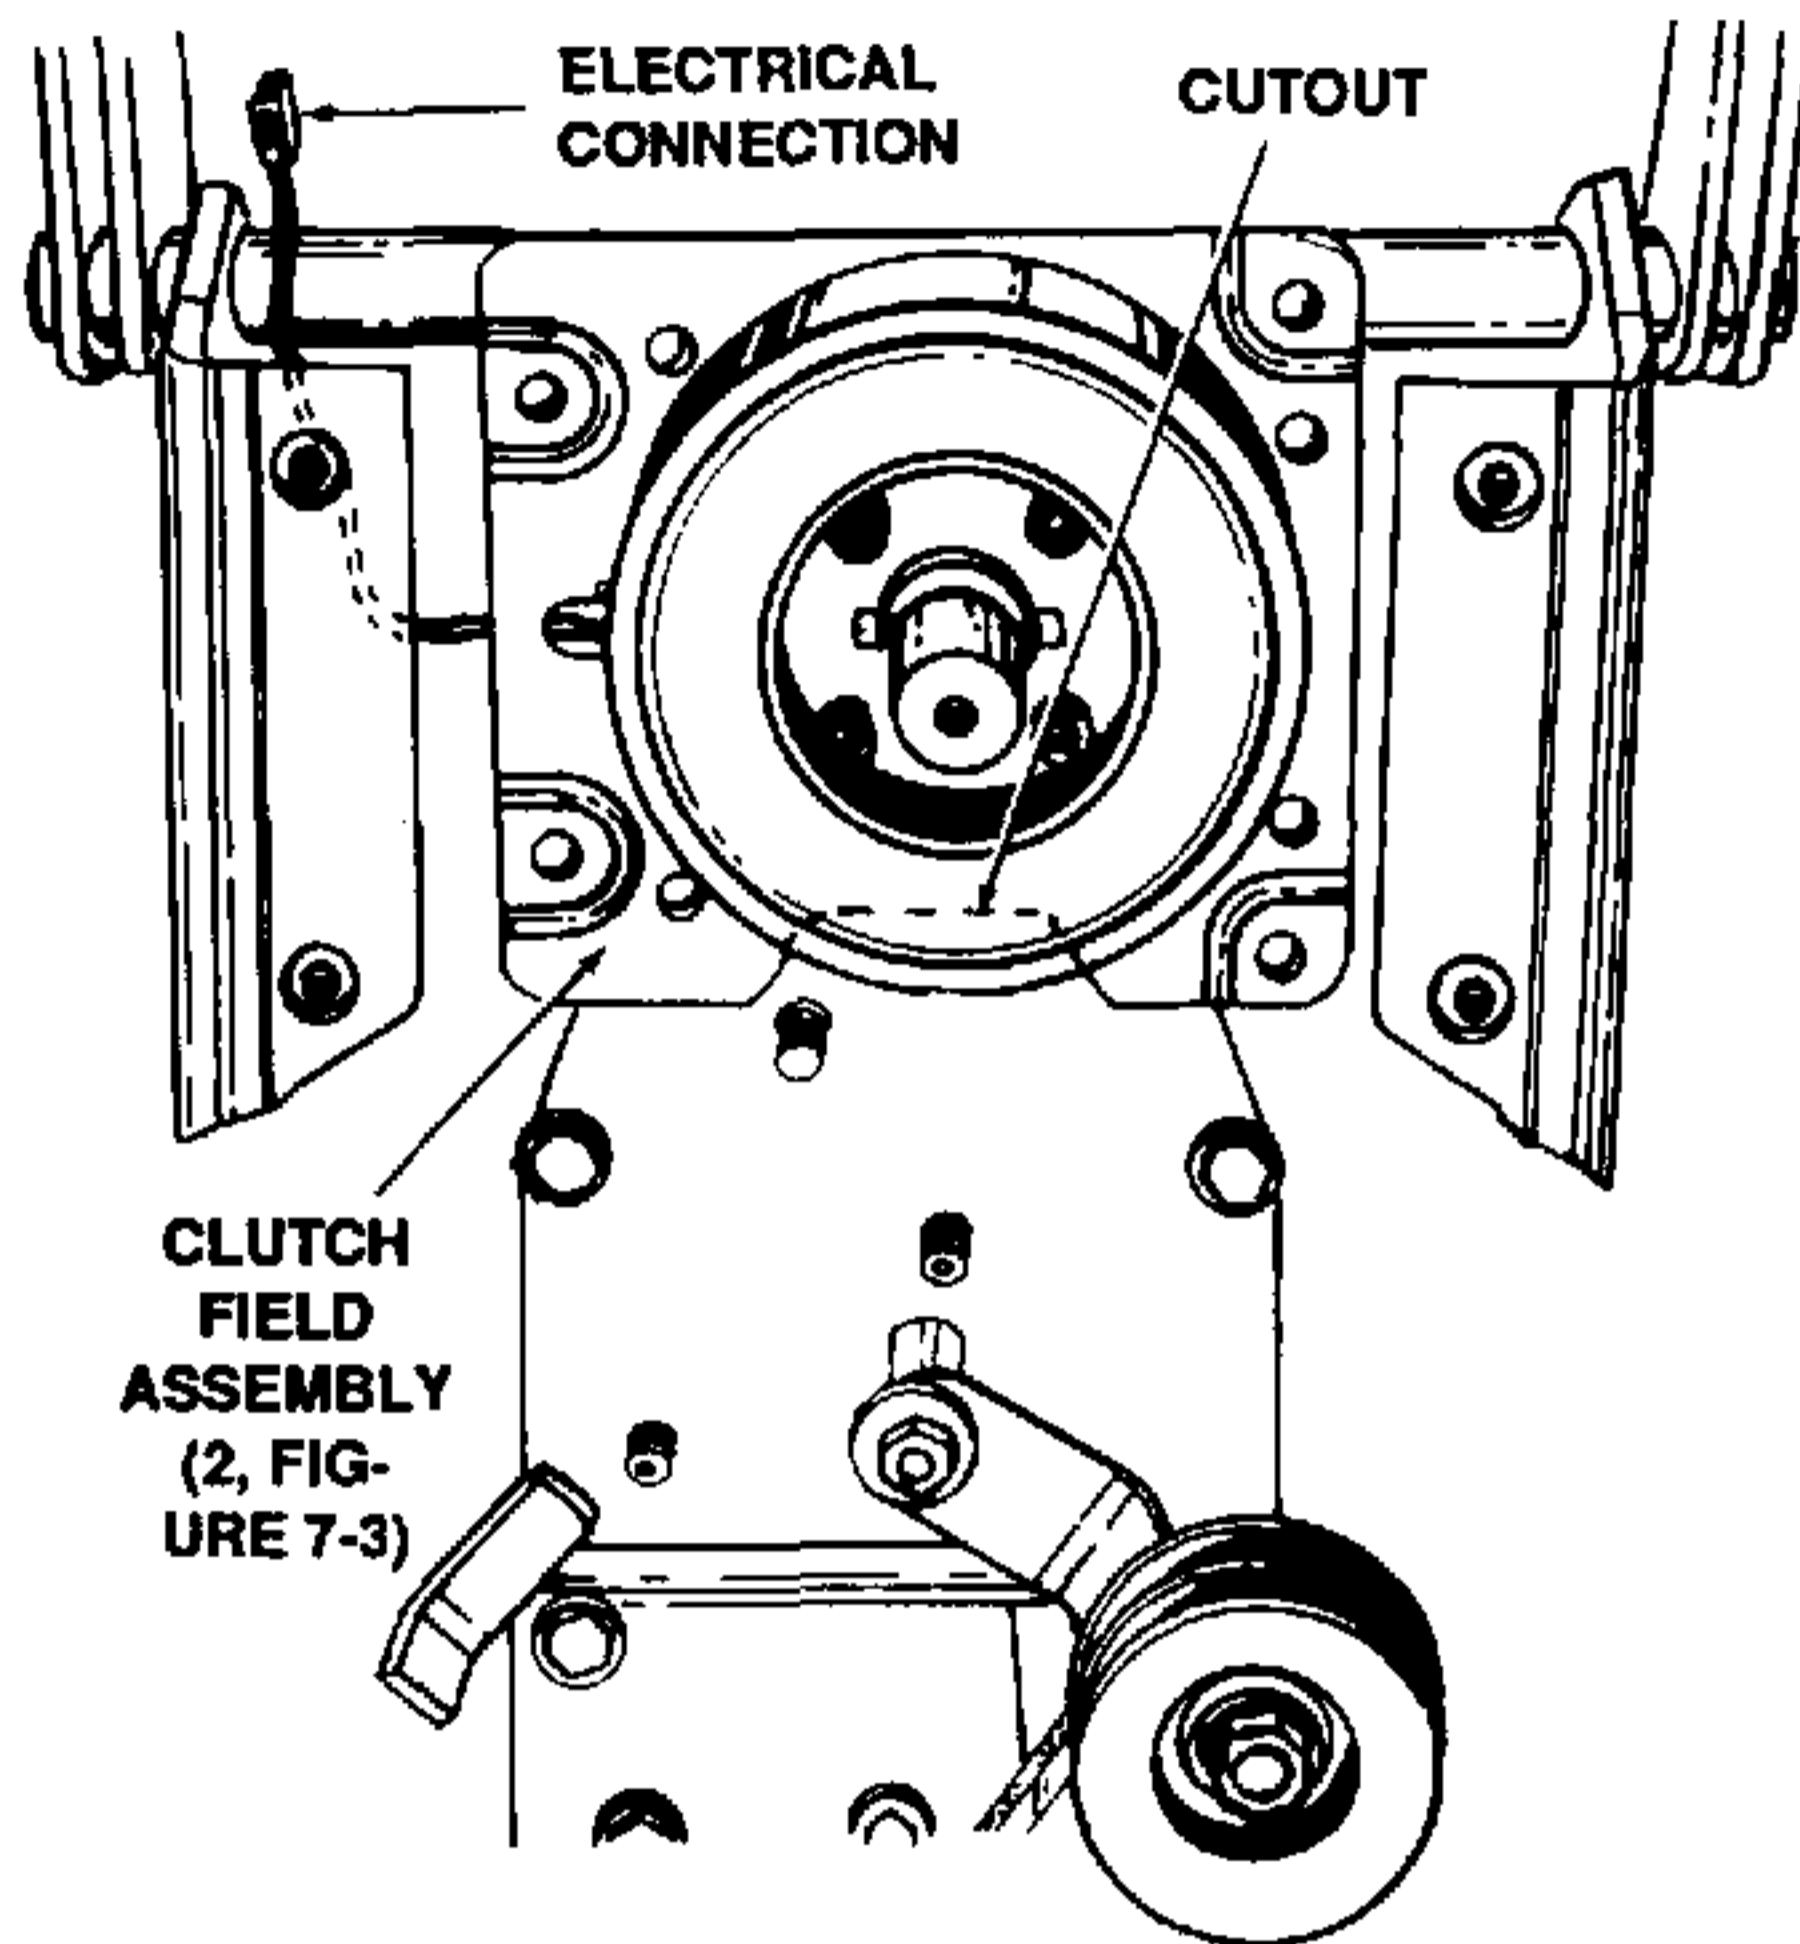

Figure 7-19. Installing Clutch Field Assembly on Rear PTO Clutch Shaft.
- c. Slide clutch field assembly onto rear PTO clutch shaft with clutch electrical connection on left hand side and cutout in clutch field to the bottom. Refer to Figure 7-19.